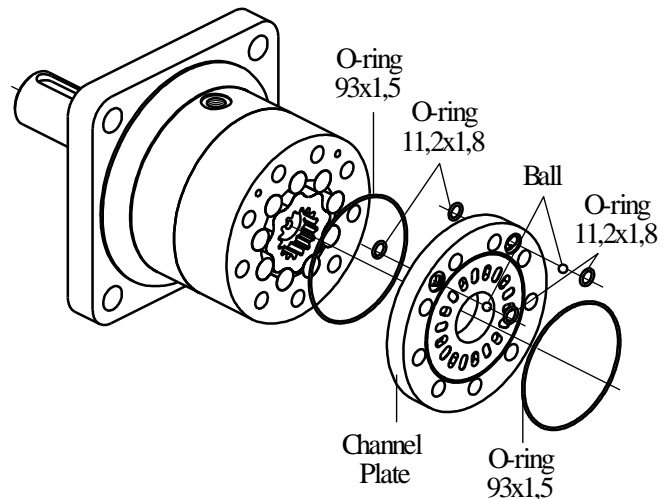

Fig.3
7. Separate Channel Plate from Roll-gerotor set (see Fig.3).